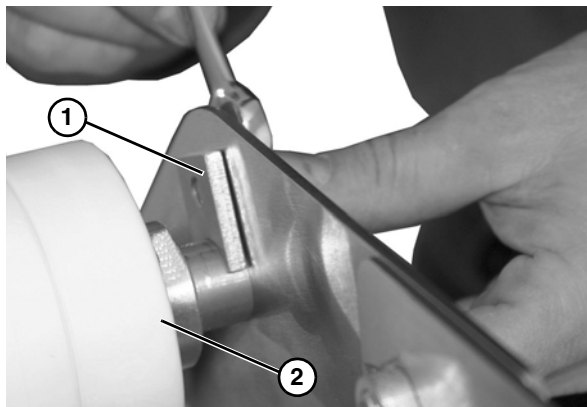

Figure 61
- Remove upper knuckle shaft assembly retainer (**Figure 61, item 1**).
- Remove shaft and roller assembly (**Figure 61, item 2**).